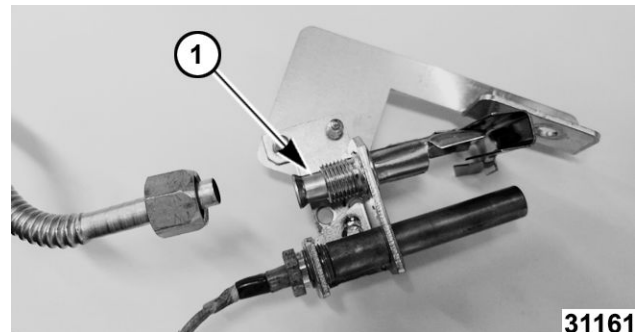

Fig. 24
- Pull orifice (1, Fig. 24) out and replace.